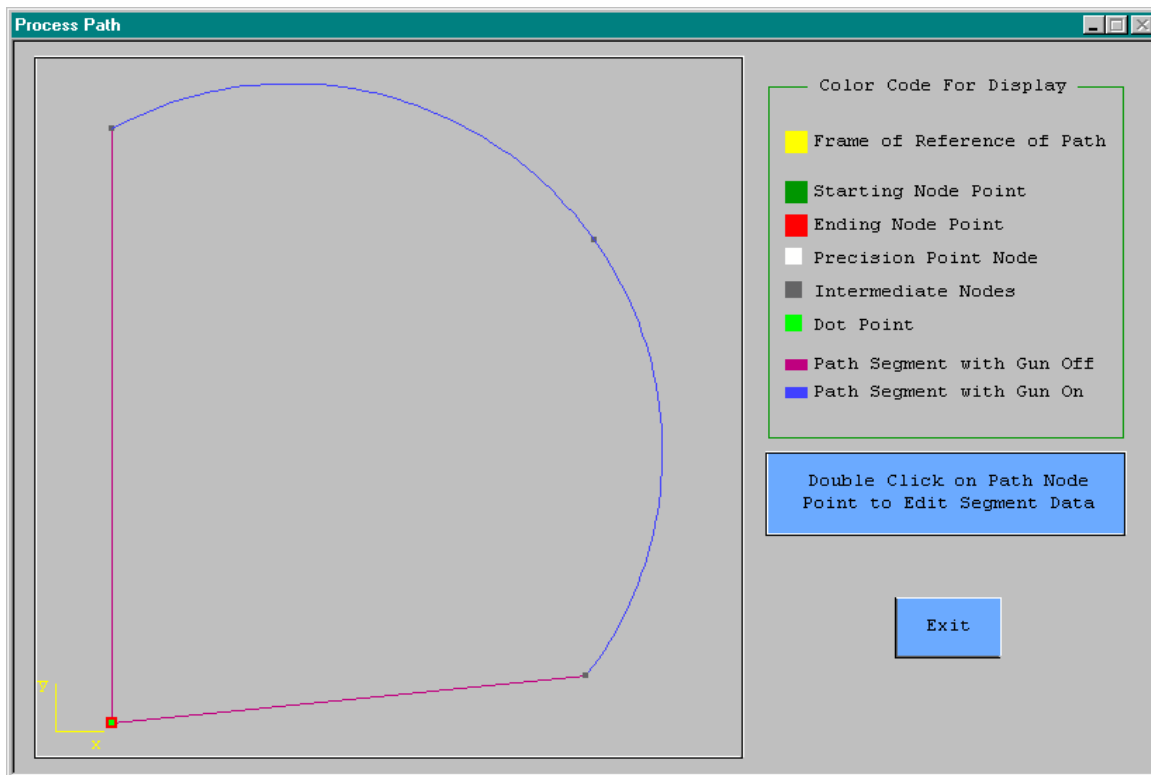

Figure 3-3. Displaying Paths
- Press **Display** to view the current taught path from a window display. This display is shown in **Figure 3-3**. It indicates all of the node points as well as the gun states.